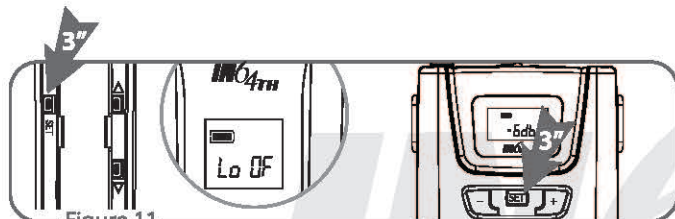

Figure 11
- (1) Press "Set" button ②⑨ for 3 seconds to enter setting window. (Figure 11)
- (2) Press "Set" again until the Lock setting window shows.
- (3) Press "▲Up ②⑩" or "▼Down ②⑪" button to select the mode between "Lock On" and "Lock off".
- (4) After setting, press "Set" again to save the settings.